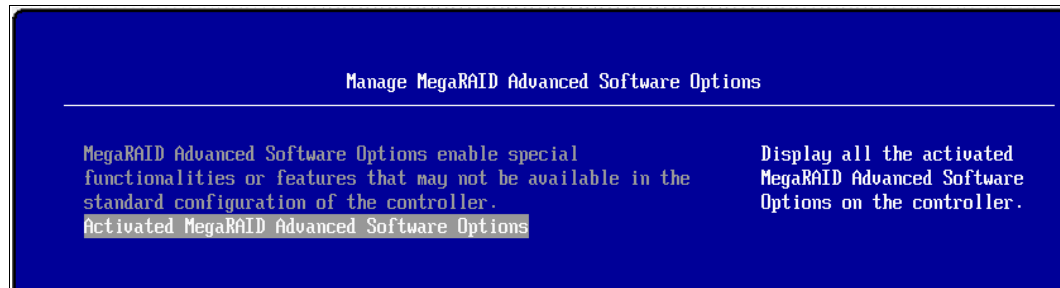

Figure 5-22 Manage MegaRAID Advanced Software Options
5. Ensure the MegaRAID Advanced Software Options is activated as Figure 5-22 shows.